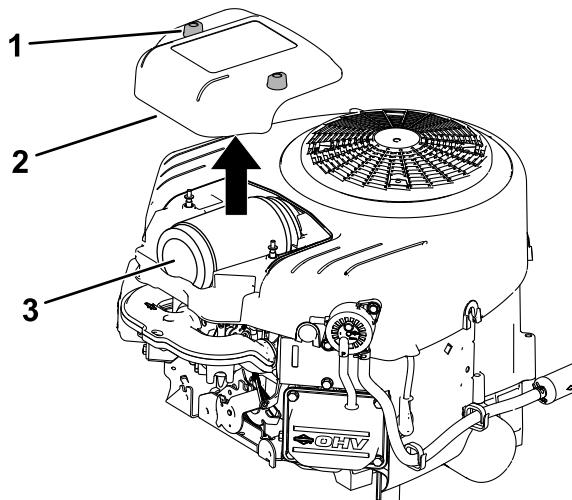

Figure 39
3. Install the cover and tighten the fasteners (Figure 39).